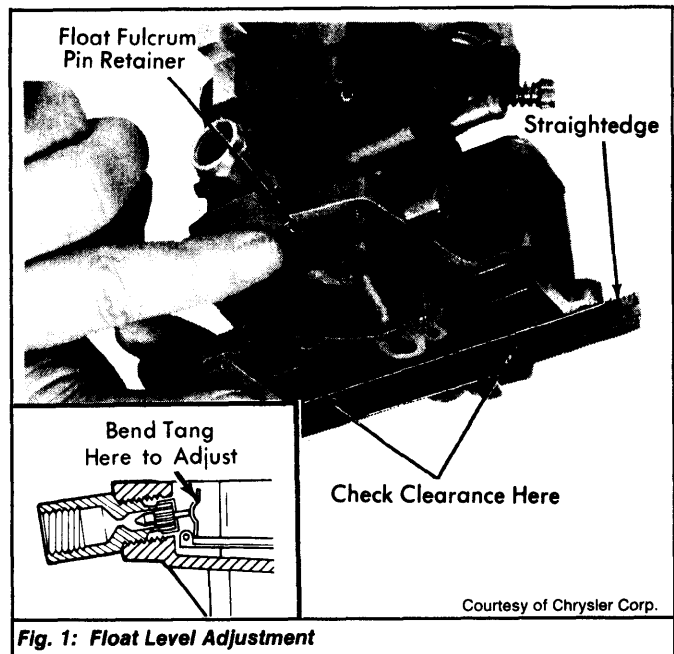

Fig. 1: Float Level Adjustment
- 1) With air horn removed, invert main body. Catch accelerator pump check ball and weight if not previously removed. Hold float hinge pin retainer in place with finger. See Fig. 1.